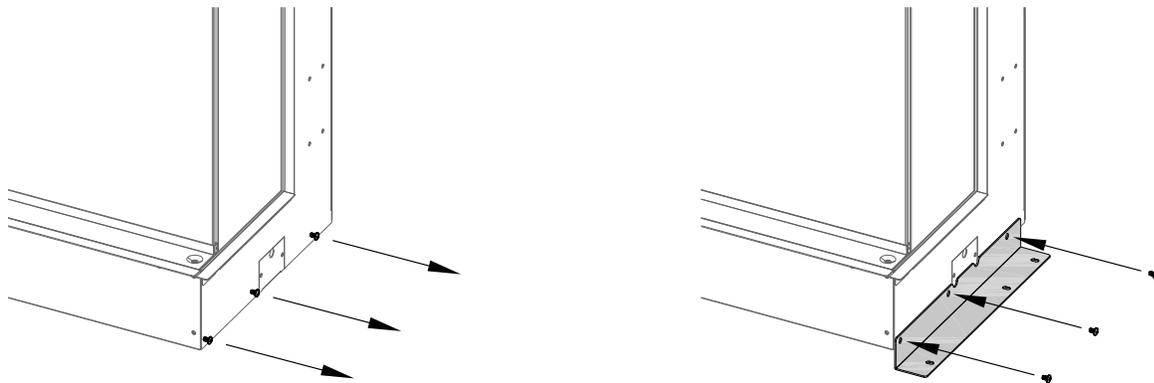

Figure 3.10 - Mounting Brackets on Fireplace
2. Install the supplied brackets from the Floating Mantel Kit as shown in Figure 3.10 . The brackets are right and left side specific.